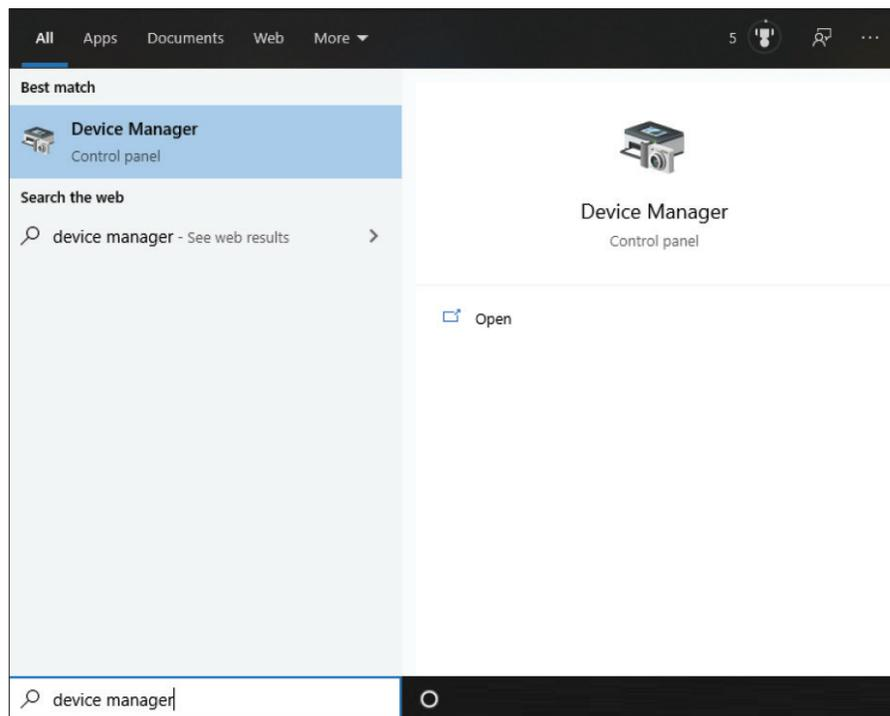

Figure 12
1. Search in Windows for “Device Manager” and open. (Figure 12)